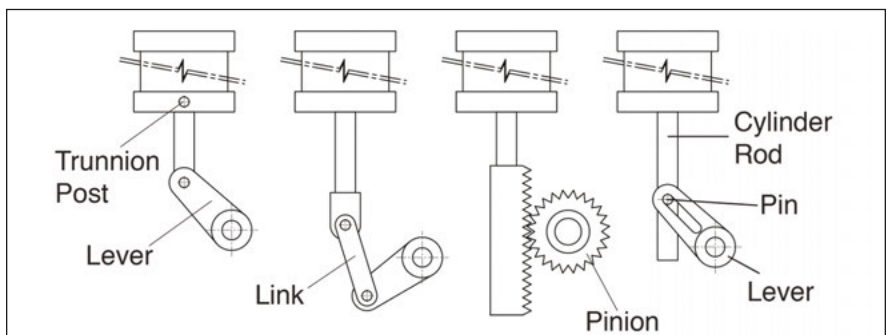

Figure 2. Converting thrust into torque
Figure 2 demonstrates that Tribaloy T-800 maintains higher hardness at elevated temperatures. The hardness (about 300 Hv) of T-800 at about 1400°F (760°C) is about the same hardness level of Stellite 6 at 800–1000°F (427–538°C). This indicates that Tribaloy T-800 and similar alloys could be good hardfacing alloy
In a linear cylinder actuator, the head of the cylinder is rigidly mounted to the valve body and the rod is attached to the valve stem or closure member to mechanically create thrust, operating the valve or gate closure member in a linear manner. Thrust is the linear force on the valve stem or slide gate, generally expressed in units of pound-force (lb-F) or Newton (N). During lifting (opening) of the gate, the head end of the cylinder will be pressurized, with reduced area and reduced thrust. A quarter-turn cylinder actuator converts the linear cylinder thrust into torque using one of the mechanisms shown in Figure 2 (page 40).